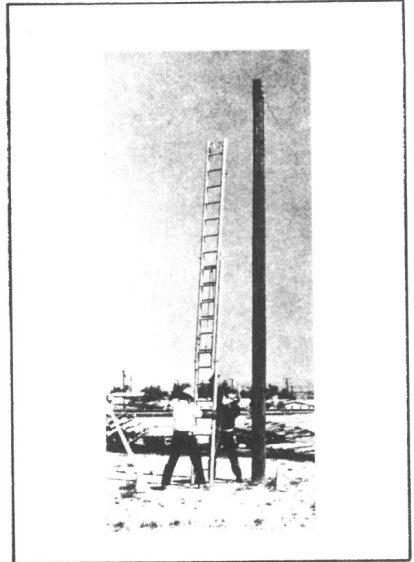

FIGURE 33.
**20.01** One craftsman shall hold the side rails of the lower section on the front side of the ladder during the raising and lowering of the upper section by another craftsman. Take care to prevent the ladder guide irons from striking and injuring the hands of the craftsman holding the side rails. The ladder is raised by the second craftsman as described in paragraph 18.04 and shown in Figure 33.